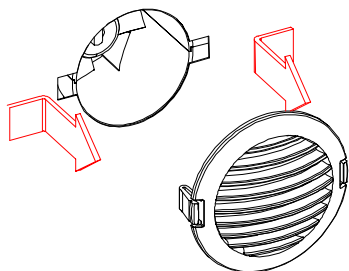

Fig. 16 Removing the fan grille
- Remove the fan grille (fig.16) by pressing the two lips towards each other and pulling the grille out of the machine.